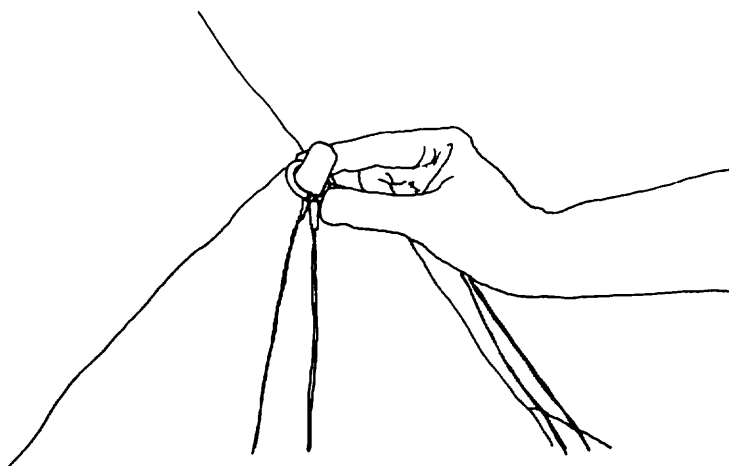

Fig 8
7) Lift the bridle ring off the kingpost base stud, and holding the ring and bridles behind the kingpost, install the kingpost onto the stud. (fig 8 and 9) Take care not to pinch the sail in the process. You must have the keel centered between the partially deployed leading edges in order to install the kingpost.